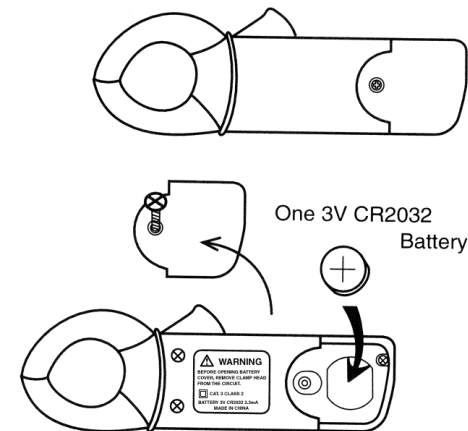

Fig. 3
3. Referring to figure 3 unscrew the battery cover retaining screw and slide off the battery cover.